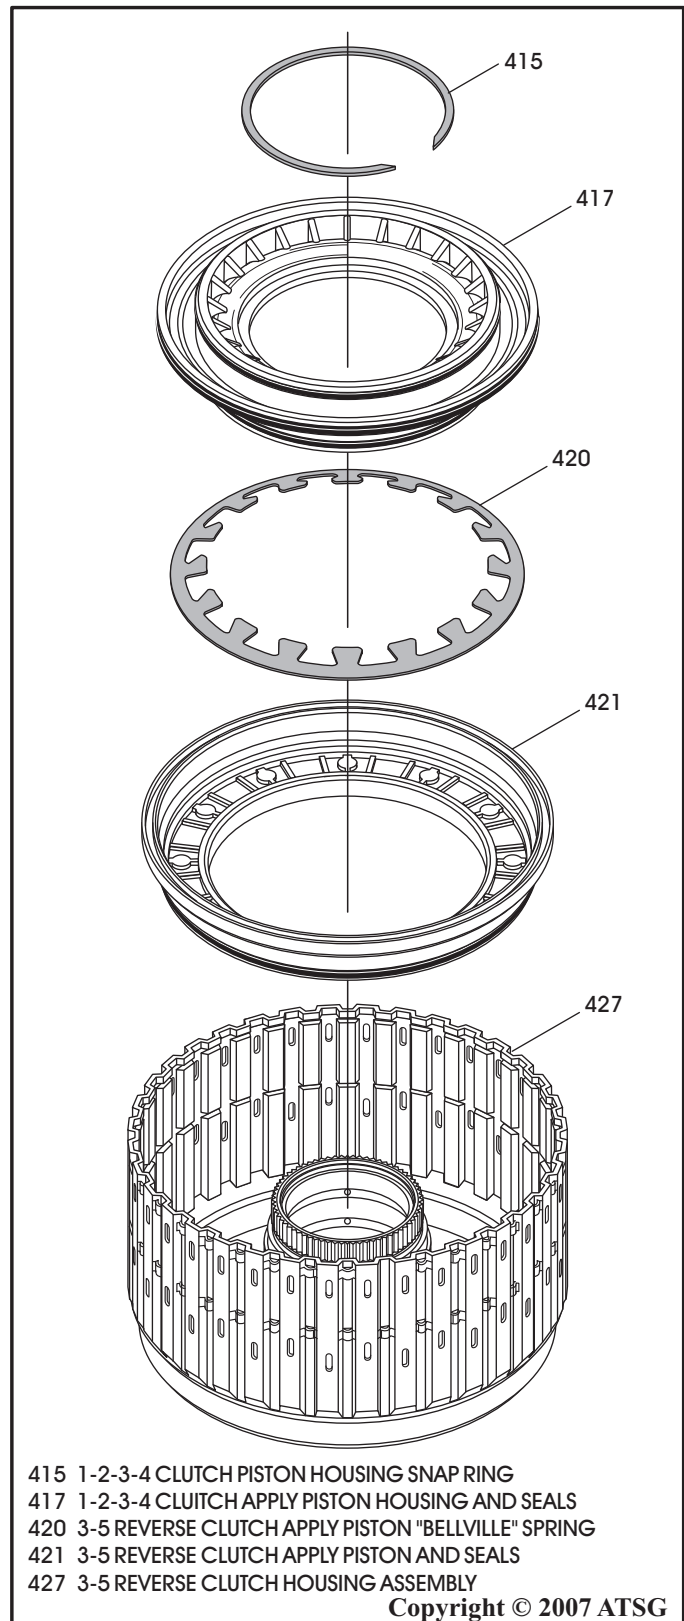

Figure 95
10. Lubricate the outer seal and both inner seal surfaces of the 3-5 reverse piston assembly, as shown in Figure 95.
11. Install the 3-5 reverse clutch apply piston into the 3-5 reverse clutch housing, as shown in Figure 95.
12. Install the 3-5 reverse clutch "bellville" return spring, as shown in Figure 95.
13. Lubricate all three seals on the 1-2-3-4 clutch piston housing, as shown in Figure 95.
14. Install the 1-2-3-4 clutch piston housing, as shown in Figure 95.